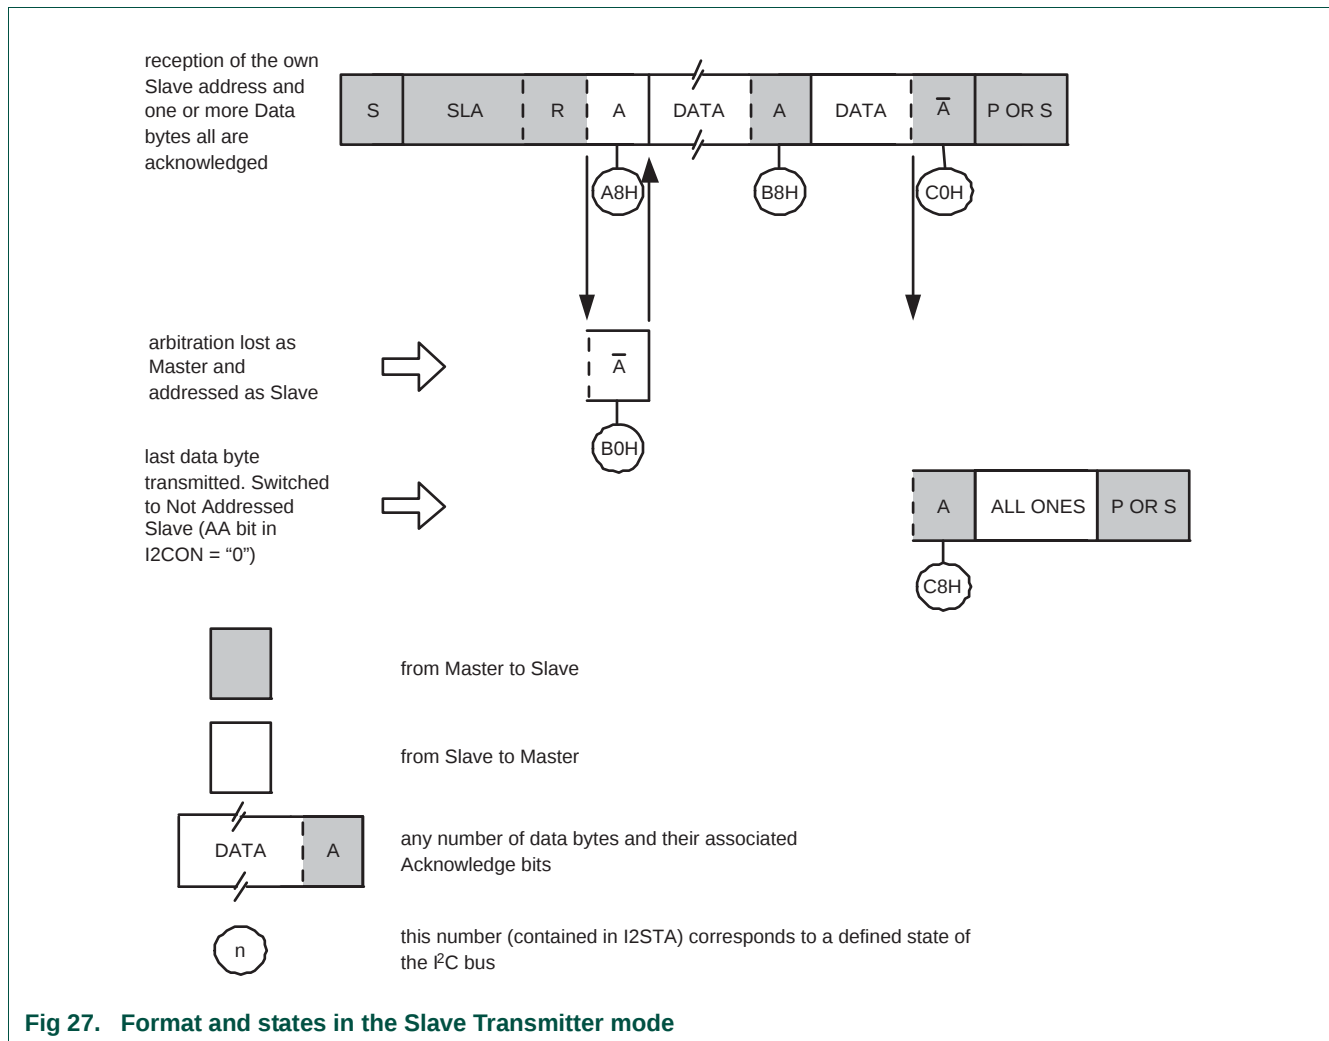

Fig 27. Format and states in the Slave Transmitter mode
In the slave transmitter mode, a number of data bytes are transmitted to a master receiver (see Figure 27). Data transfer is initialized as in the slave receiver mode. When I2ADR and I2CON have been initialized, the I²C block waits until it is addressed by its own slave address followed by the data direction bit which must be “1” (R) for the I²C block to operate in the slave transmitter mode. After its own slave address and the R bit have been received, the serial interrupt flag (SI) is set and a valid status code can be read from I2STAT. This status code is used to vector to a state service routine, and the appropriate action to be taken for each of these status codes is detailed in Table 134. The slave transmitter mode may also be entered if arbitration is lost while the I²C block is in the master mode (see state 0xB0).